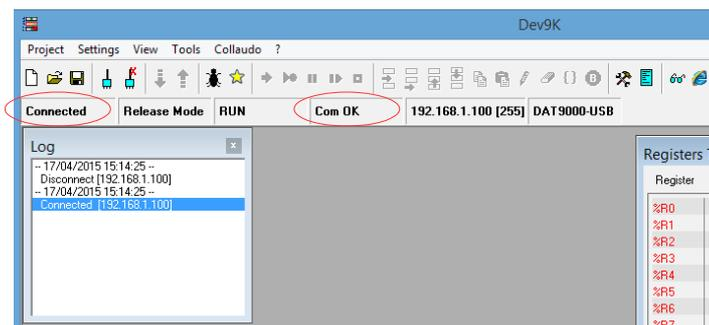

Fig 1.4: Controller connected
- Now the chosen controller is connected to the ethernet; (Fig. 1.4)